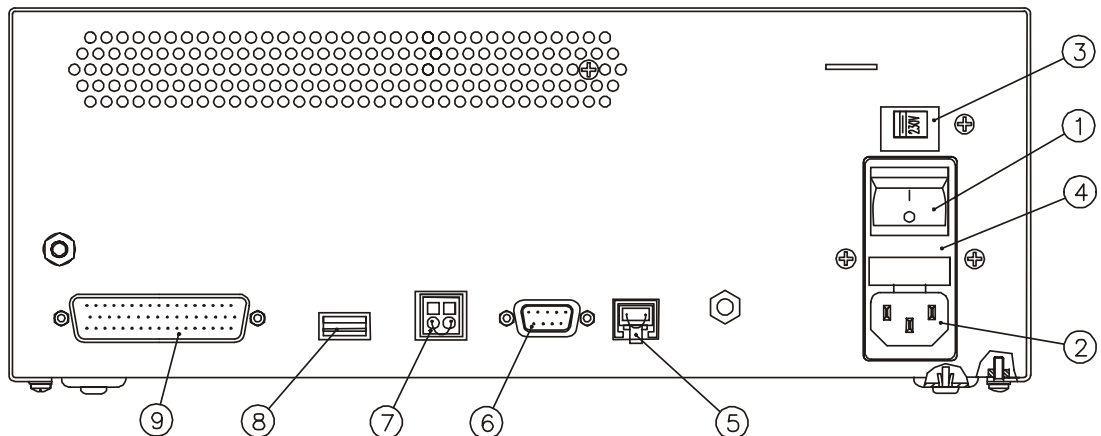

Figure 3-1: Controller-USB - Rear Panel
Before beginning the installation, it is recommended that you familiarize yourself with Controller-USB. Refer to Figures 3-1 and 3-2 and the legends that follows.
*The numbers in parentheses refer to Figures 3-1 and 3-2.*
1. Make sure that Controller-USB voltage setting (3) matches your power supply. If the voltage setting does not match your supply, refer to Changing the Voltage Setting in the chapter “Maintenance”.
2. Make sure the controller’s power switch (1) is turned off.
3. Connect the controller’s USB socket (8) to the USB socket on the computer.
4. Connect the robot cable to the ROBOT port (9) on the controller. Tighten the connector screws.
5. If a teach pendant will *not* be used, connect the emergency bypass plug to the teach pendant port (5) on the controller’s rear panel.